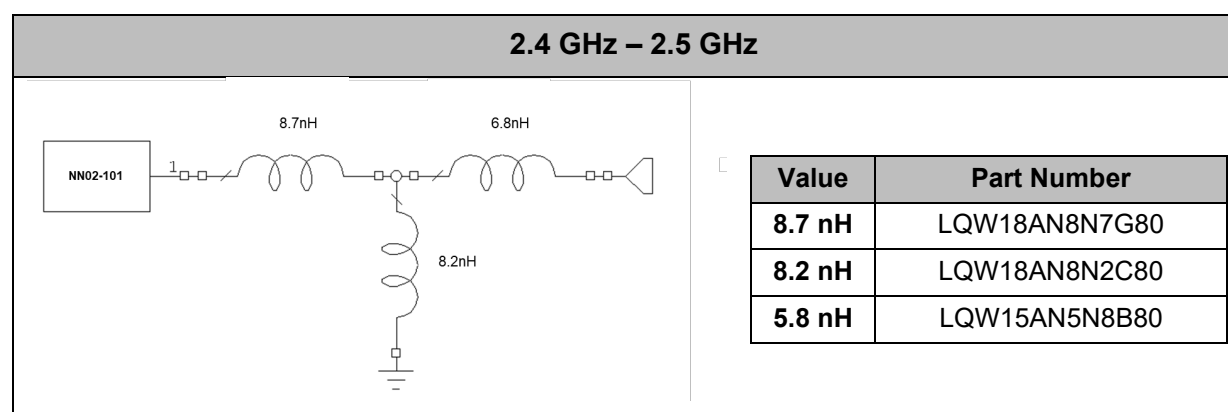

Figure 2 – Matching network implemented on the Evaluation Board (Figure 1) for covering Bluetooth from 2.4GHz to 2.5GHz.
For an optimal result, the use of high-quality factor (Q) and tight tolerance components is highly recommended (e.g., Murata components with part numbers as shown in **Figure 2**). The antenna performance is always conditioned by its operating environment meaning that differences in the device, including differences in printed circuit board sizes, components near the antenna, displays, batteries, covers, connectors, etc. affect the antenna performance. Accordingly, placing pads compatible with 0402 and 0603 SMD components for a matching network as close as possible to the feeding point of the antenna element is highly recommendable. It is also recommendable to do this in the ground plane area, not in the clearance area. By tuning the matching network in your final design after your final surrounding components are in place (batteries, displays, covers, etc.) you will be able to optimize the antenna performance without changing the antenna part or the design.